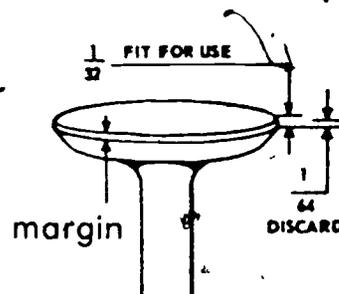

FIGURE 2
3. Measure valve margin (Figure 2)